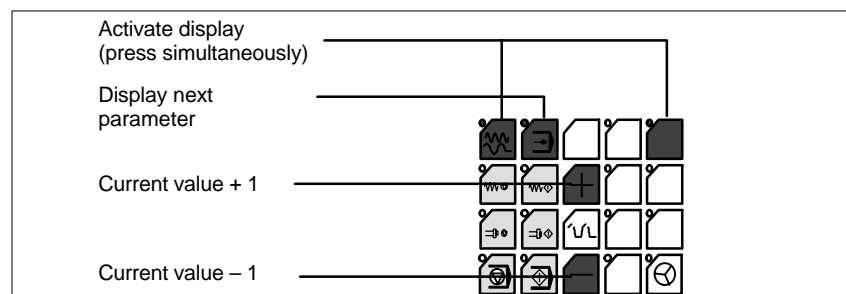

Fig. 7-17 Displaying and modifying GD circle parameters
The current values of the GD circle parameters of the HHU can be set and/or checked on the HHU display (see Fig. 7-17, Page 7-180).
While the message “Waiting for PLC” is displayed on the HHU display, the uppermost right and left keys must be pressed simultaneously (see Fig. 7-17). Then the first GD circle parameter is displayed.
The value of a GD circle parameter can be modified within its admissible range of values using the + or – keys (see Fig. 7-17).
Press the 2nd key from the left in the uppermost key row (see Fig. 7-17) to advance to the next parameter. After the last GD circle parameter has been reached, the set values will be automatically saved in the Flash-EEPROM of the HHU.
5. Setting the HHU GD circle parameters (see: Fig. 7-17, Page 7-180) according to the values of the default configuration.